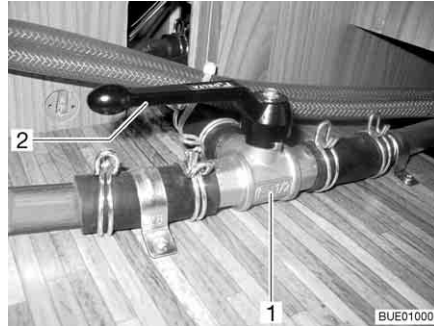

Fig. 190 3-way valve
- Set the lever (Fig. 190,2) of the 3-way valve (Fig. 190,1) parallel to the straight flow direction (Fig. 190).
- Set the lever (Fig. 190,2) of the 3-way valve (Fig. 190,1) transverse to the straight flow direction.